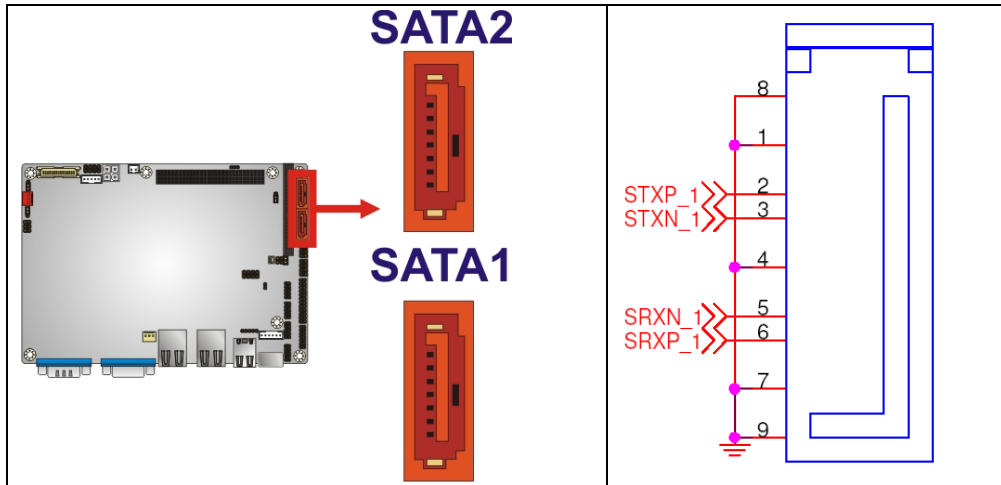

Figure 4-18: SATA Drive Connector Locations
- CN Location:** See **Figure 4-18**